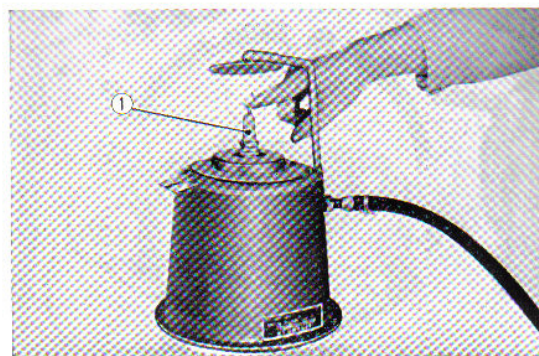

Fig. 6.12 Spark plug cleaning
- a. It is best to use spark plug cleaner for the cleaning, however, when a cleaner is not available, after scraping with a piece of wire or needle, wash with gasoline and wipe off with a dry rag. (Fig. 6.12)